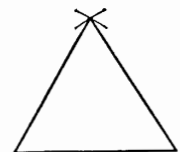

Fig. 30
24. An *Equilateral Triangle* is one in which the three sides are equal that is, of the same length. Fig. 30.